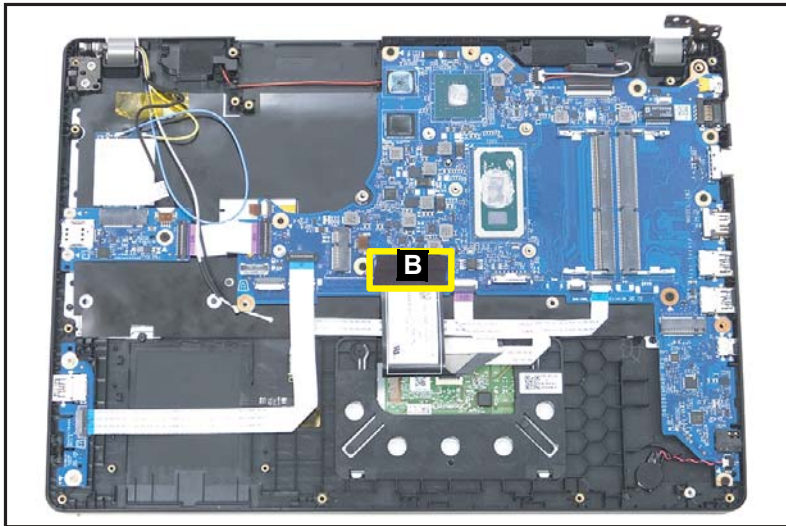

Figure 1-52. Mainboard Removal
4. Remove the adhesive tape on the keyboard FPC connector (B) (Figure 1-52).